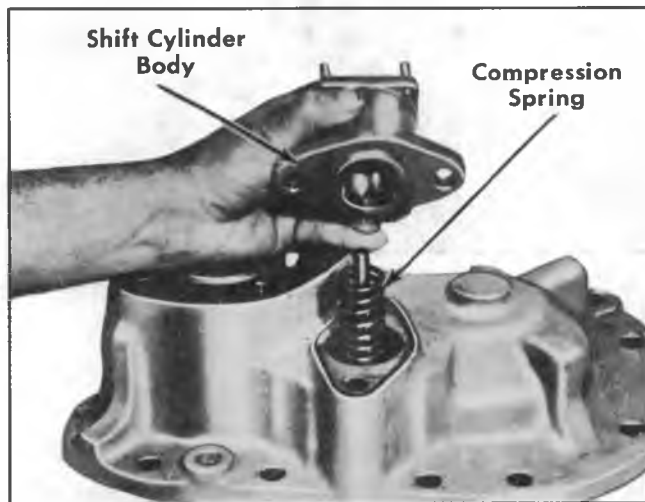

Fig. 11M—Removal or Installation of Air Operated Lockout
1. Remove nuts, lock washers and cover from shift cylinder body. Discard cover grommets. Remove nut, flat washer and grommet from push rod (fig. 11M).